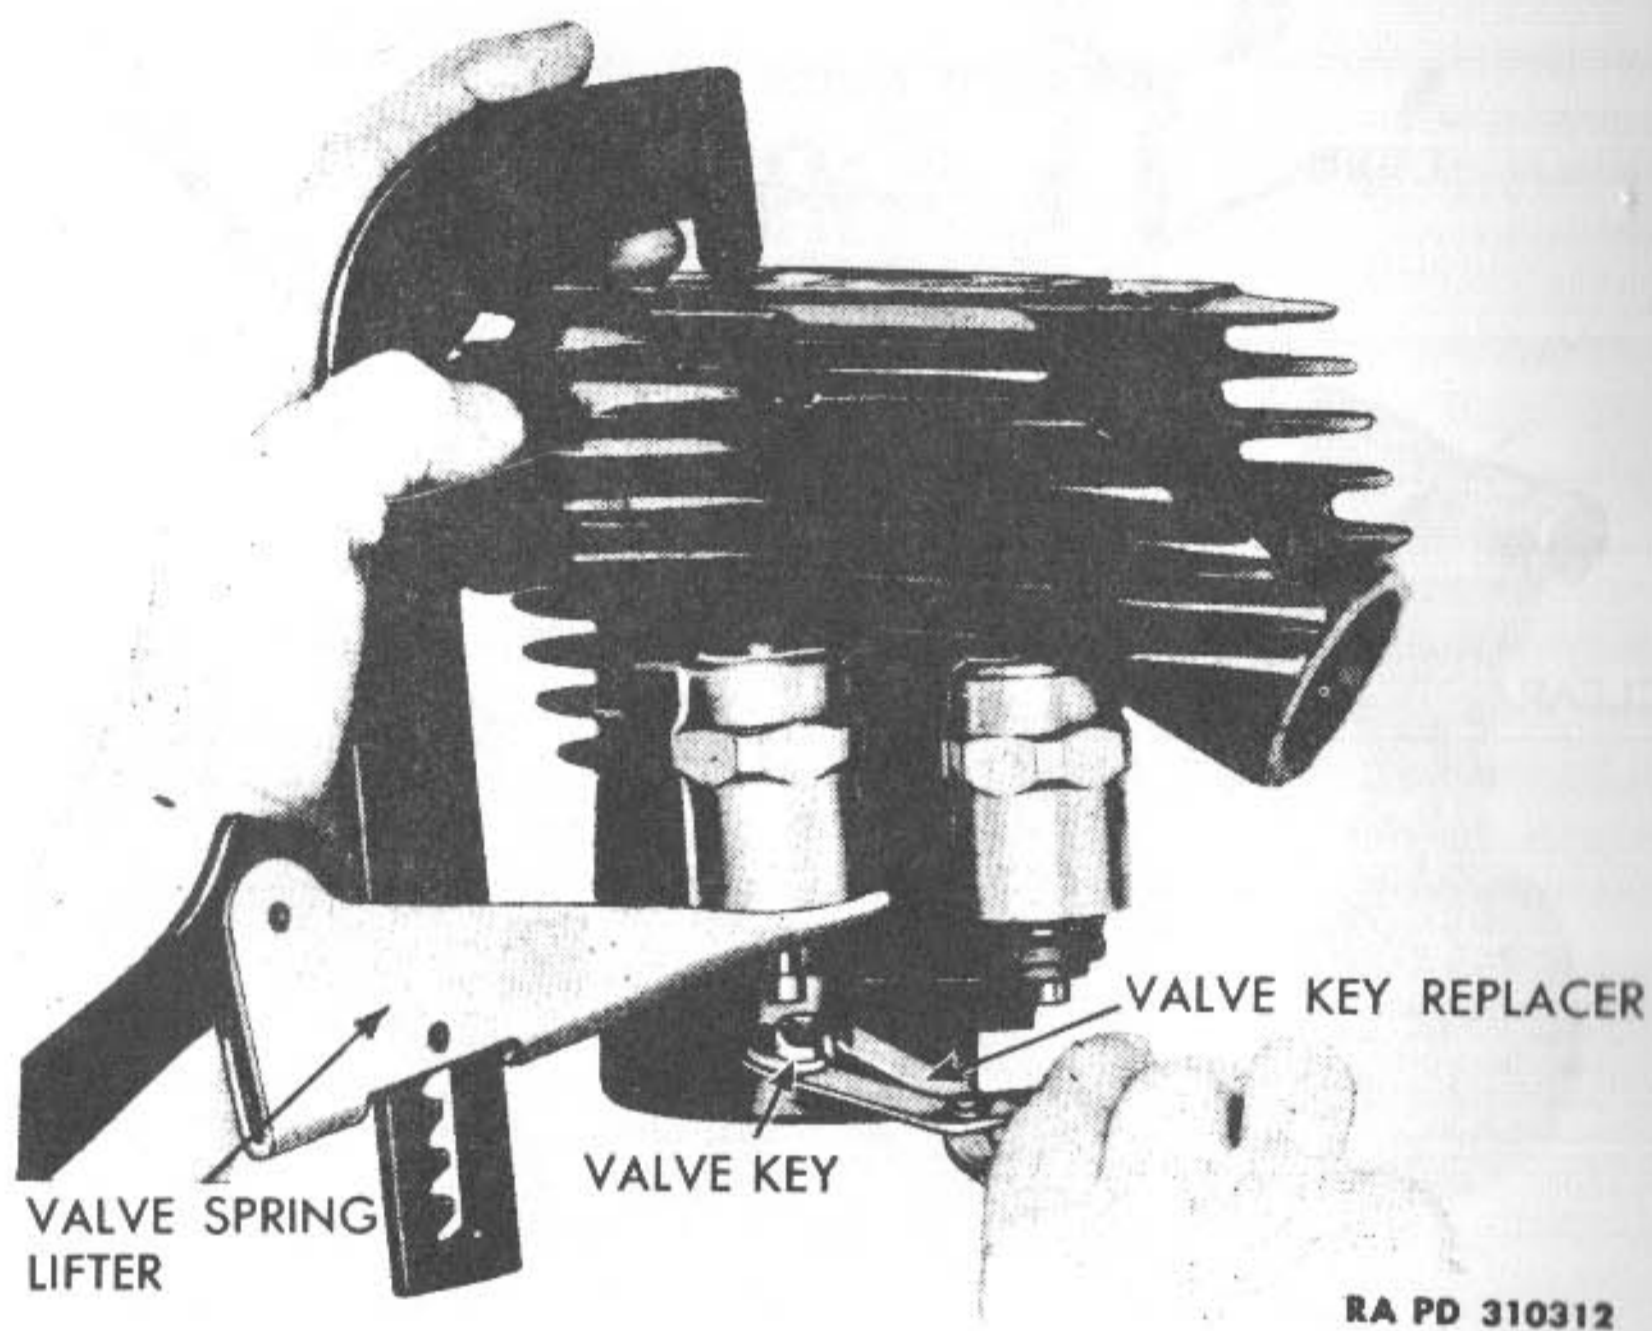

Figure 13—Installing Valve Stem Collar Keys, Using Lifter (41-L-1409) and Replacer (41-R-2398)
c. Install valve spring and collar over valve stem and compress spring with lifter (41-L-1409) enough to install the split valve stem keys in valve stem groove, small end of cone upward, with replacer (41-R-2398) (fig. 13).